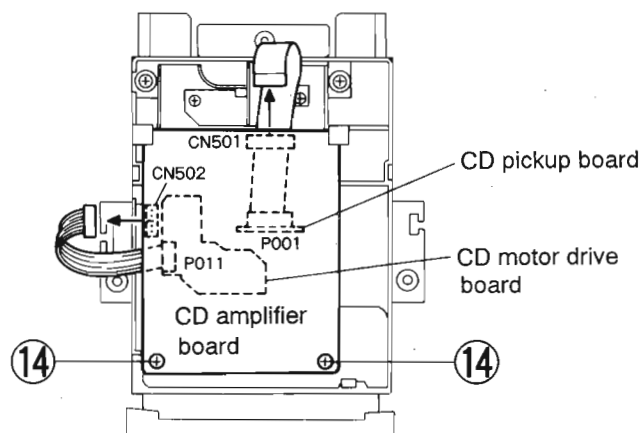

Fig. 5-12
■ How to Remove the CD Amplifier P.C. board (Refer to Fig. 5-12)
4. Remove the two screws (14) retaining the CD amplifier P.C. board.